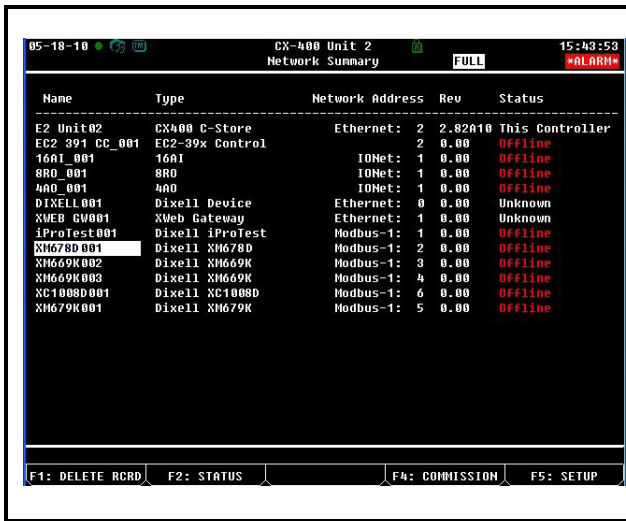

Figure 23-7 - Network Summary Screen
- When finished, press **Esc** to return to the *Network Setup* menu, then press **1** - **Network Summary** (Figure 23-7). Locate the devices you set up, and look at each device's status in the **Status** field. You will see one of the following messages: